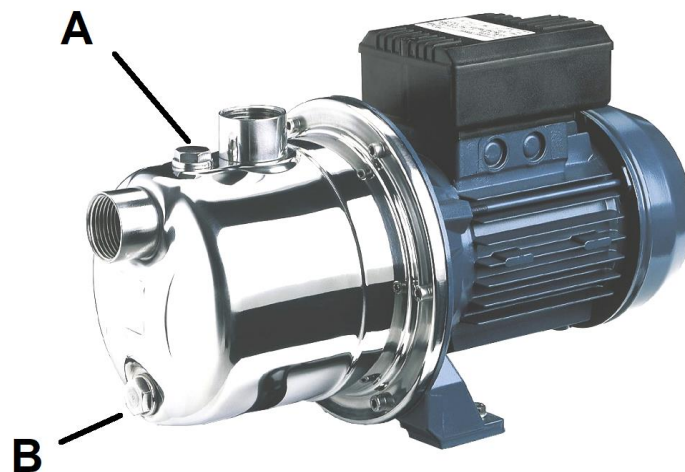

Figure 3 - Location of the plugs in the pump
After preparing the device to work according to the instruction manual, empty the pump by unscrewing the drain plug (fig.3 pos.B) and after the liquid is drained, screw the plug on again.
1. Unscrew the drain plug (fig.3 pos.B) and remove the water from the pump, then screw the plug back on.
3. Unscrew the filling plug (fig.3 pos.A) and pour 1l of antifreeze into the pump through the opening of the filling plug (e.g. using a funnel - not supplied with the product).
4. After pouring the antifreeze into the pump, close the filling plug (fig.3 pos.A).